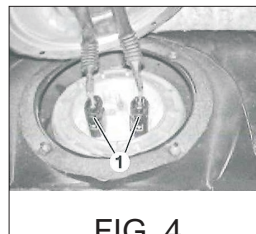

FIG. 4
- 2 Disconnect the electrical connectors (1) [FIG. 4].